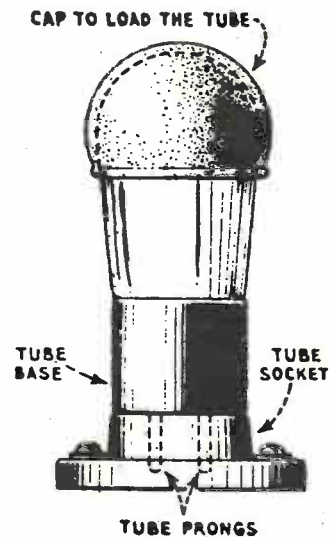

Fig. 82 - Howl Arrestor.
(8) Microphonic Howl. Microphonic howl is one common source of trouble in detectors, especially those employing battery-type tubes. The heater-type A.C. tubes give practically no trouble from this source. In extreme cases, it is necessary to exchange the tube in order to eliminate the howl, or use a cushioned socket or "howl arrestor." See Fig. 82. Since the detector is connected to the input side of the audio-frequency amplifier, it is extremely susceptible to audio vibrations or current variations, which explains the excessive tendency to microphonic howl in this particular tube. The grid-bias or plate-detection type is less susceptible; as far as audio-frequency currents are concerned, the grid may be considered as connected directly to the filament or cathode, thereby preventing the detector from acting as an audio-frequency amplifier, which it is when a grid condenser and leak are used.